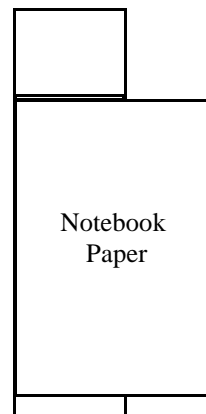

FIGURE 6
1. Use a piece of notebook paper (or a square if you have one) to check if the slots are square with the car body (see Figure 6). If a slot is not perfectly square with the body, either re-cut the axle slots on the opposite side of the car, exchange the car kit for a new car kit, or purchase a new block at a hobby store.